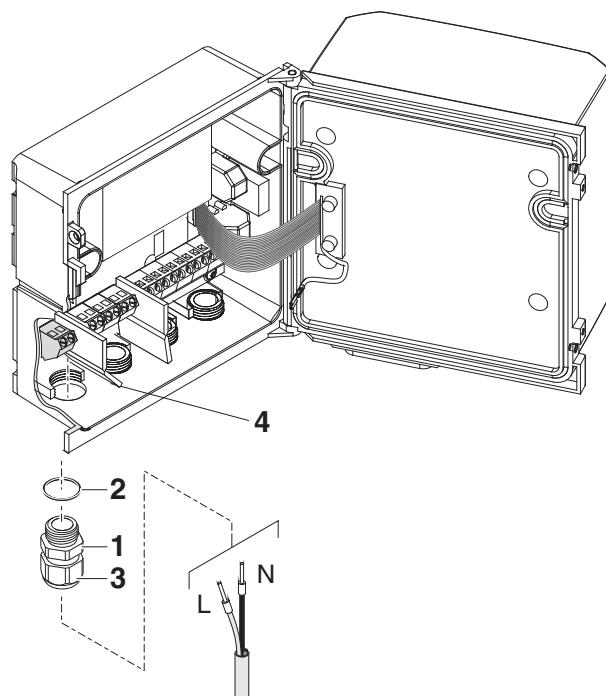

Fig. 3-18 Inserting lines
- 2 Screw a cable gland (pos. 1 in Fig. 3-18) with the sealing ring (pos. 2) into the enclosure below the respective connections.
- 3 Loosen the coupling ring (pos. 3).
- 6 Tighten the coupling ring (pos. 3).